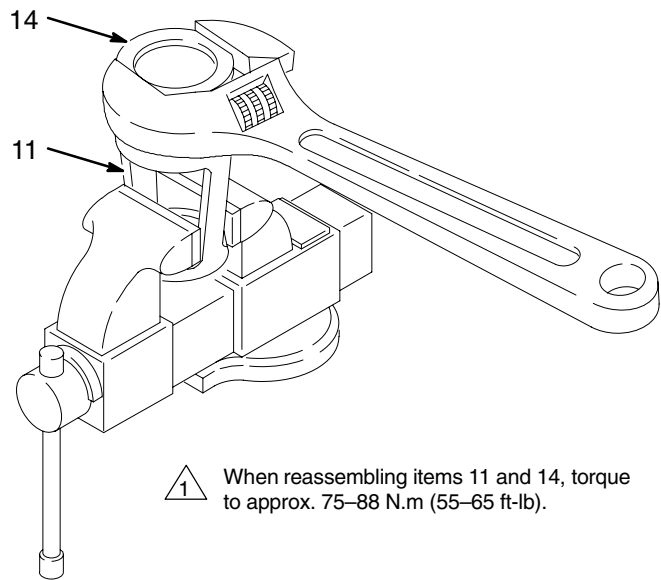
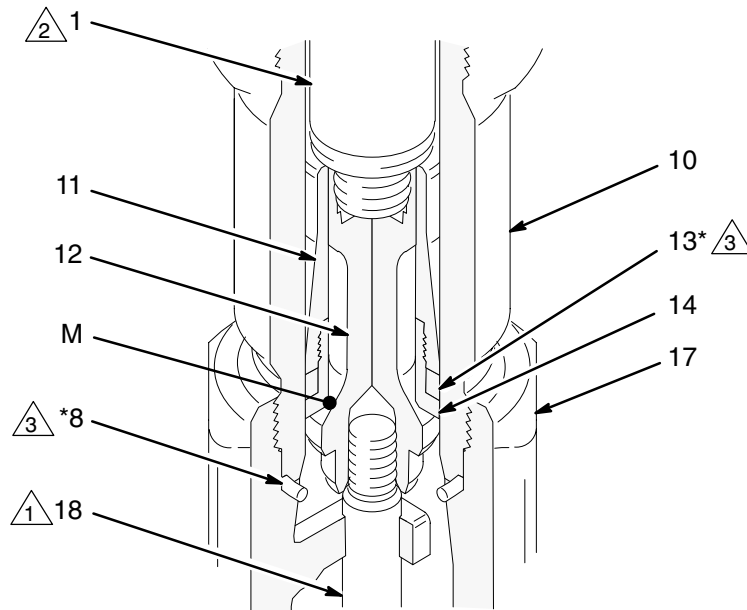

Fig. 10
Fig. 11
9. Remove the seal (8) from the bottom of the cylinder (10). See Fig. 11. Shine a light into the cylinder to examine the inside surface for scoring or damage. **Only if the cylinder is damaged, or there is evidence of leaking around the top cylinder seal (8),** unscrew the cylinder from the outlet housing, using a pipe wrench. Remove the top cylinder seal.
10. Place the flats of the displacement rod (1) in a vise. Unscrew the piston (12) from the displacement rod; the priming piston rod (18) will come with it. Slide the piston guide (11) and seat (14) off the piston (12).
11. It is not necessary to remove the priming piston rod (18) from the piston (12) unless your inspection reveals damage to either part. To disassemble, place the piston flats in a vise and unscrew the rod.
12. Place the piston guide (11) in a vise, as shown in Fig. 10. Using an adjustable wrench, unscrew the piston seat (14) from the guide. Remove the seal (13); always replace it with a new one. Inspect the mating surfaces (M) of the piston (12) and piston seat (14) for damage or wear. See Fig. 11.
2. With the beveled side facing up, press the intake valve seal (39\*) into the recess of the intake valve packing nut (15) until it snaps into place. The nose of the seal should be flush with or slightly recessed into the face of the packing nut.
3. Place the flats of the valve body (16) in a vise. Screw the packing nut (15) into the valve body handtight. Set the intake housing assembly aside.
4. Lubricate the piston seal (13\*) and install it on the piston seat (14). Screw the piston guide (11) onto the seat (14). Place the guide in a vise as shown in Fig. 10 and torque the seat to 75–88 N.m (55–65 ft-lb).
5. If it was necessary to remove the priming piston rod (18) from the piston (12), place the flats of the piston in a vise. Using an adjustable wrench on the flats of the rod, screw the rod into the piston. Torque to 125–137 N.m (92–101 ft-lb). Be careful not to create burrs on the flats of the rod.
6. Place the piston seat/guide assembly onto the piston (12) so the 45° beveled seating surfaces match. Screw the displacement rod (1) into the piston (12) hand tight, then torque the rod to 339–359 N.m (250–265 ft-lb).